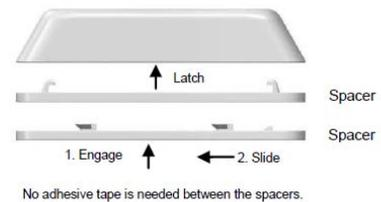

Figure 5
4. Spacers are used to raise the level of the magnet to be level/closer to sensor. Install Magnets as shown in Figure 5